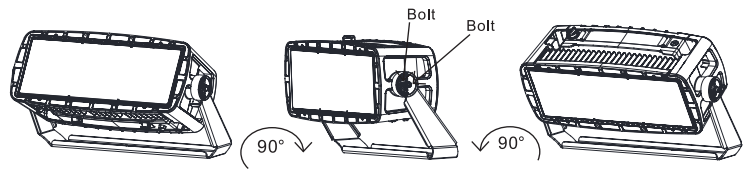

FIGURE 3
Set the up/down orientation by loosening the (2) bolts on each side of the fixture where the yoke mount attaches to the fixture and rotate the fixture up or down then re torque the bolts to 22.2 ft. lbs. (Figure 3)